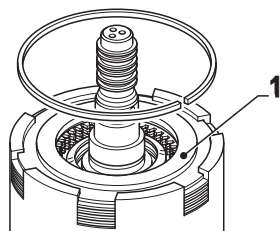

FIG. 1-1c
Place end disc (item 1 Fig. 1-1c) and snap ring engaging it into clutch housing groove.